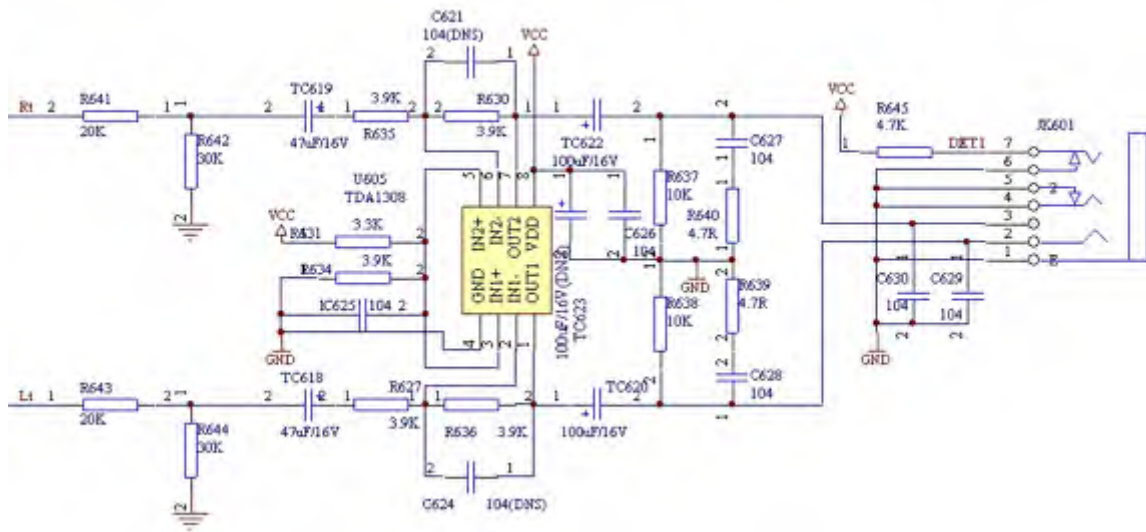

Figure 3.2.9.1 Headphone signal circuit diagram
1. Headphone signal circuit diagram is shown as the following figure 3.2.9.1: